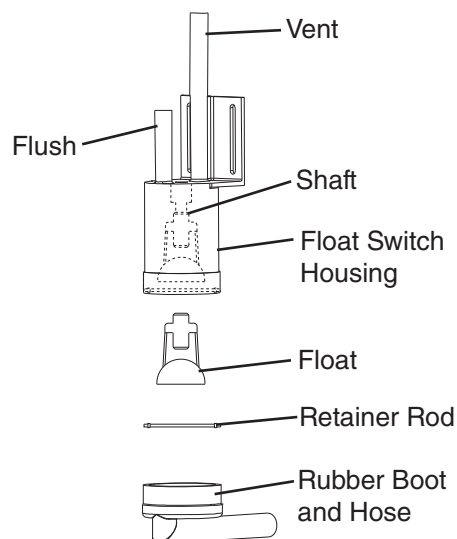

Fig. 4
- 4) Disconnect the vent tube and the flush tube from the top of FS, then remove FS assembly and remove the rubber boot from the bottom of FS assembly. See Fig. 4.